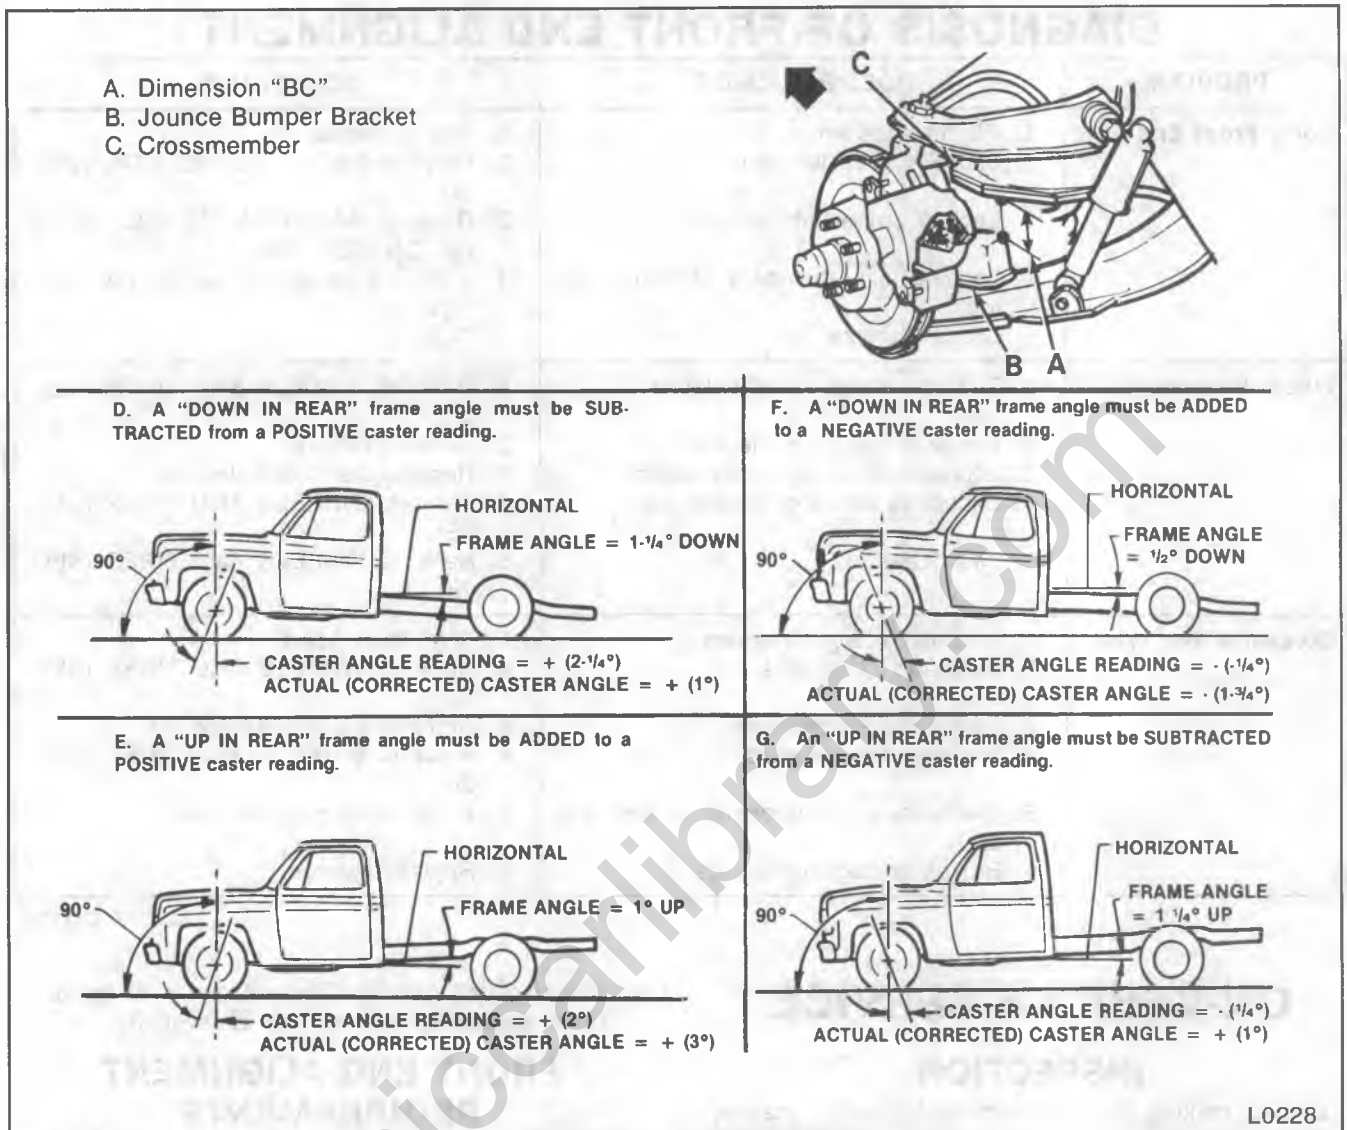

Figure 2—Determining Caster
Inspect (Figure 2)
5. Dimension "BC" in (figure 2). If not within specifications, the correction must be made before adjusting caster.
How to Determine Caster (Figure 2 and 3)